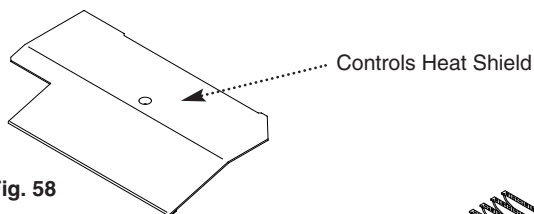

Fig. 58
1. Remove controls heat shield (Fig. 58).